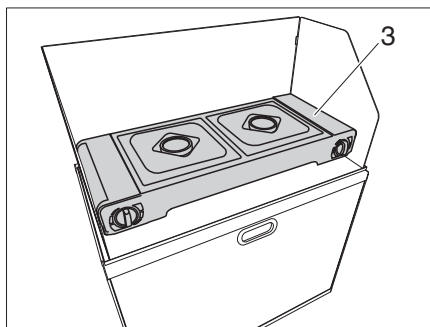

Fig. 21 Setting up the 2-burner cooker
- Remove the 2-burner cooker (Fig. 21,3) from the Campbox and setup in the wind guard.